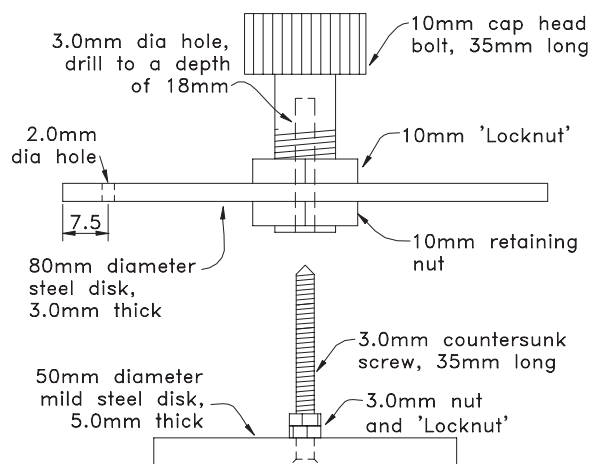

Fig B-8. Spinning-top construction details
Fig B-8 illustrates a spinning-top, which may be constructed locally. You may attempt this yourself, or have it made at a local engineering shop. Alternately, please refer to page 134 of the 'WHO Quality assurance workbook' for additional information.
- See Fig B-8.
- The top described in fig B-8, can perform a total of six tests on one 24/30 film